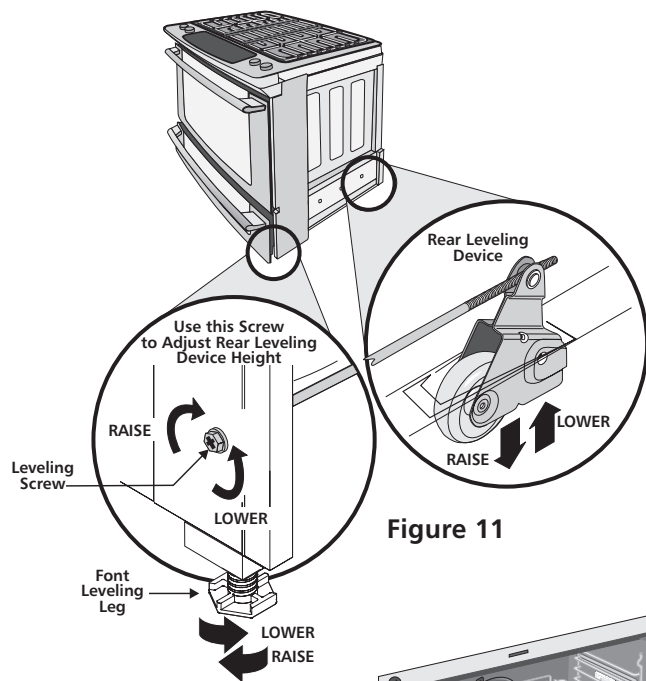

Figure 11
The supply line should be equipped with an approved shutoff valve (see Figure 11). This valve should be located in the same room as the range and should be in a location that allows ease of opening and closing. Do not block access to the shutoff valve. The valve is for turning on or shutting off gas to the appliance. Open the shutoff valve in the gas supply line. Wait a few minutes for gas to move through the gas line.
2. Adjust the appliance legs and wheels as follows until the underside of the cooktop surface is sitting level on the countertop (Figure 11).